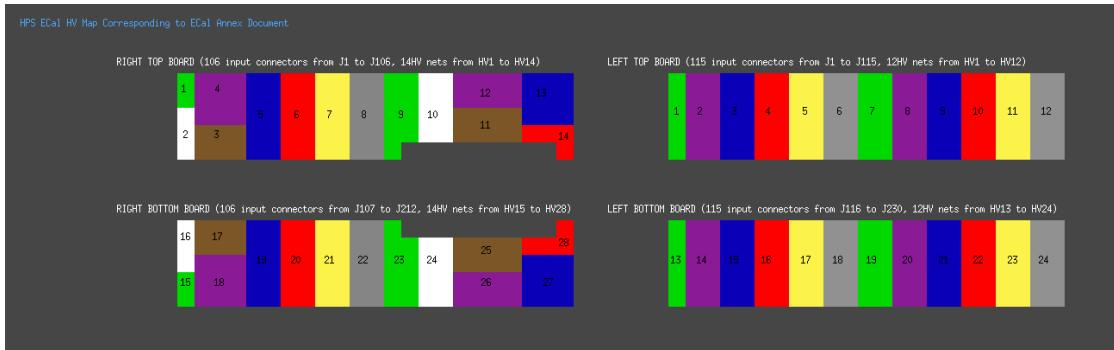

Figure 19: Expert HV channel map for reference.
**NOTE:** The ECal HV groups had to be renumbered in the EPICS, the correspondence map (figure 19) is available in the main ECal HV monitoring window with the Expert HV Map button.